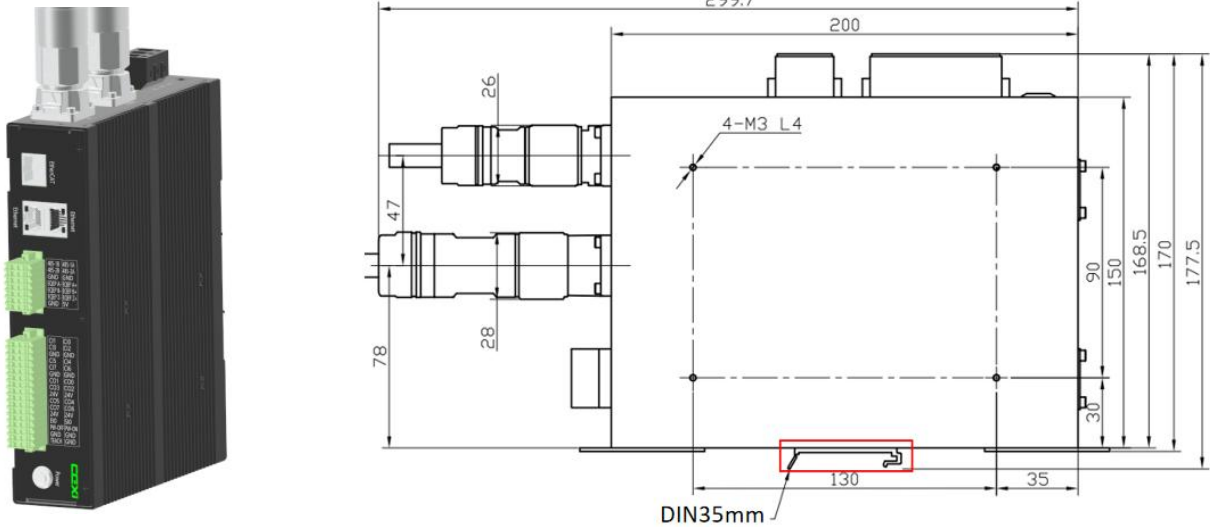

Figure 59 Rail mounting, unit mm
- Rail mounting: The mounting method and interface of the rail mounting are shown in Figure 59.